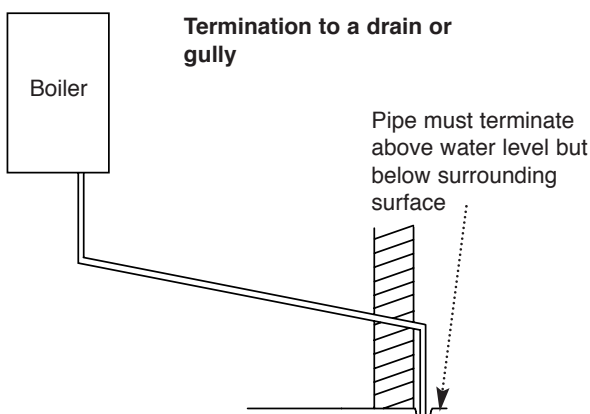

Fig. 6
- iii) to a drain or gully - Fig. 6.